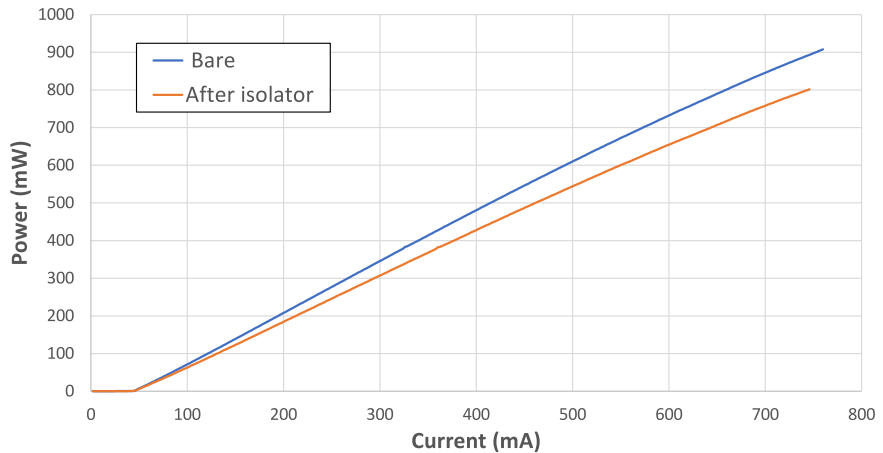

Figure 3.3: Amplifier output power-current characteristic curves, measured before and after the isolator.
2. Measure the amplifier PI curve by recording power immediately after ISO2 as a function of amplifier diode current (see figure 3.3). Do not exceed the maximum bare diode current specified in the ILA test report. Make sure that the output power is comparable to the factory test results (within 10%), otherwise contact MOGLabs for advice.